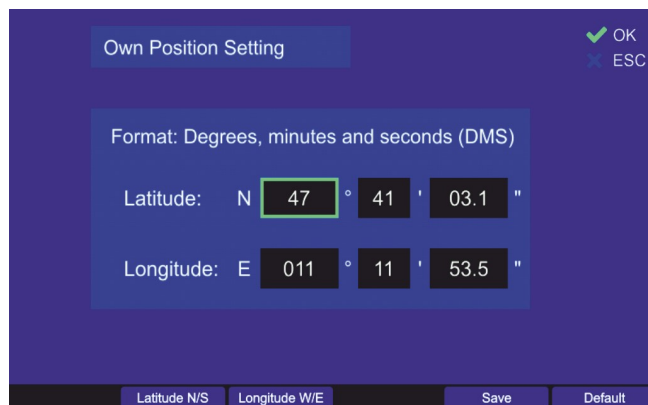

Fig. 126 Editing the own GPS coordinates
- It is also possible to choose between the N/S latitude and W/E longitude input by pressing the corresponding hotkeys while editing the coordinates (s. “N/S Latitude” and “W/E Longitude” in Fig. 126).
- Press the hotkey “Save” (s. Fig. 126) to save the entered values.